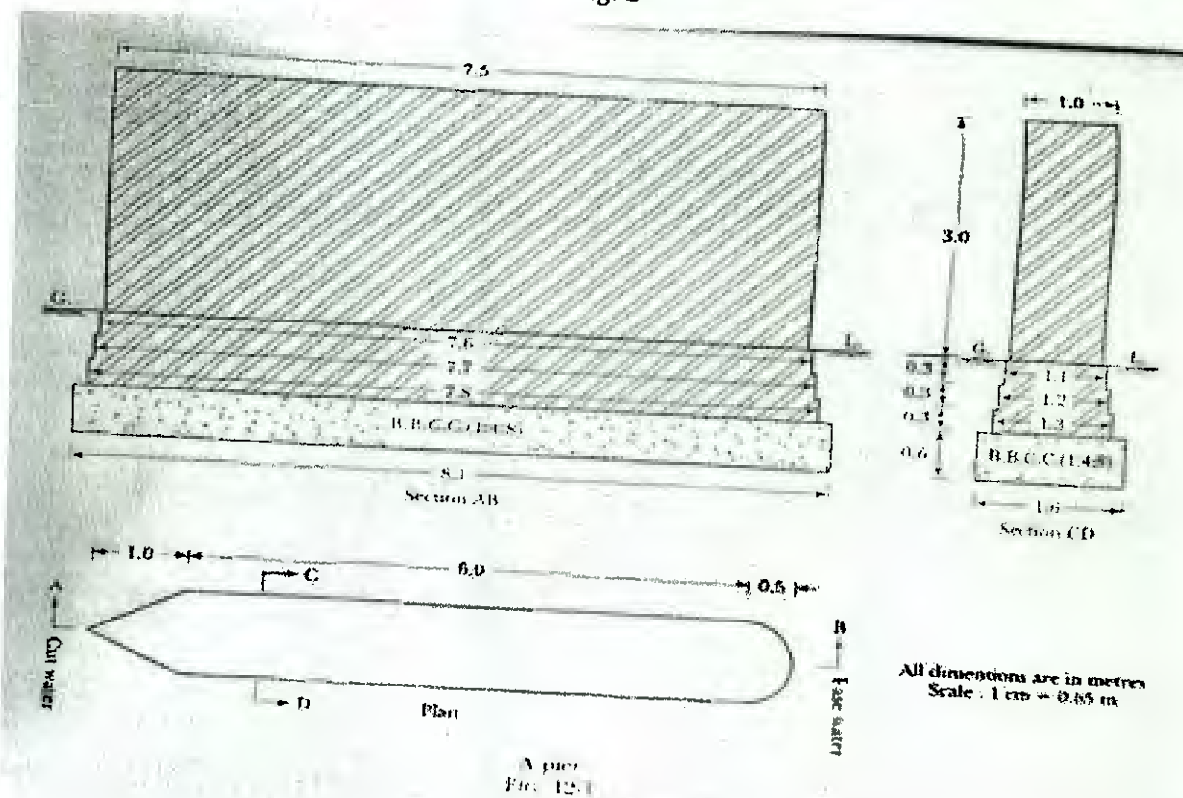

Fig: 3
A. Prepare and detailed & abstract estimate of pier of culvert as shown in Fig.3.